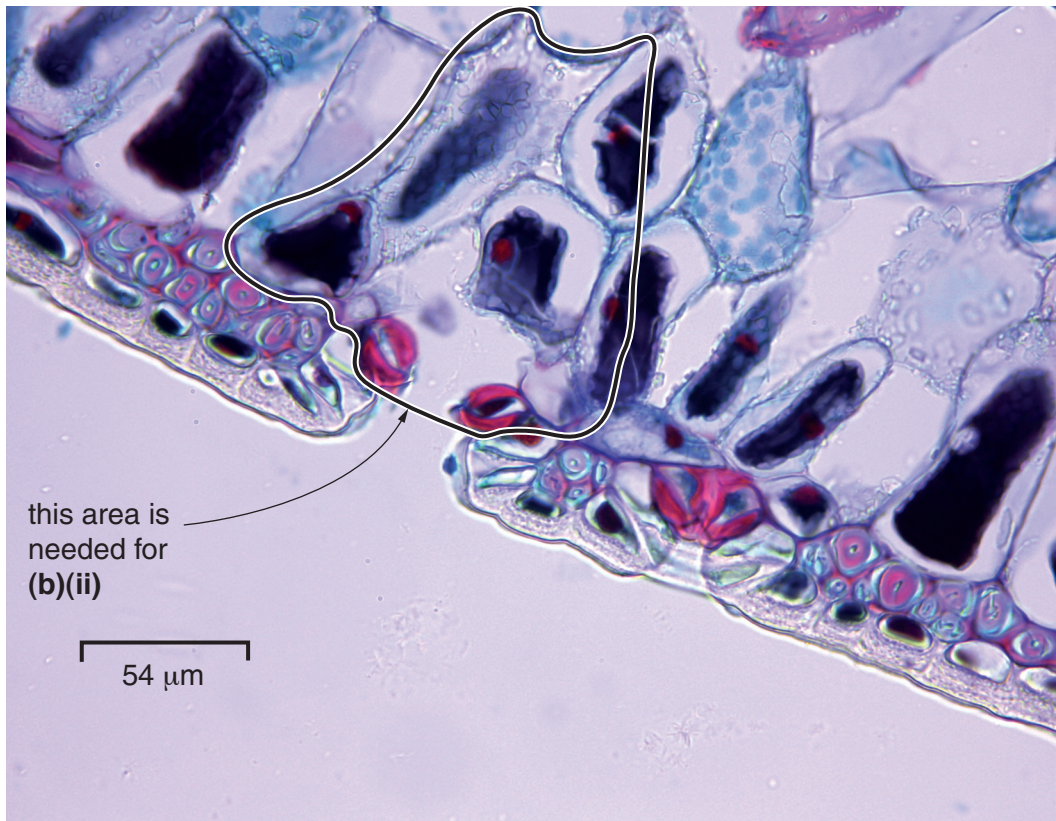

Fig. 2.1
(b) Fig. 2.1 is a photomicrograph of a stained transverse section through the tissues in a leaf where gas exchange takes place. This plant species is native to South America.
(i) Use a ruled label line and the label **Z** on Fig. 2.1 to show **one** observable feature which has reduced transpiration. Explain how this feature has decreased the rate of transpiration.
- (ii) Make a large drawing of the whole cells shown **inside** the area shown by the line on Fig. 2.1.
- (iii) Calculate the magnification of Fig. 2.1 using the scale bar.